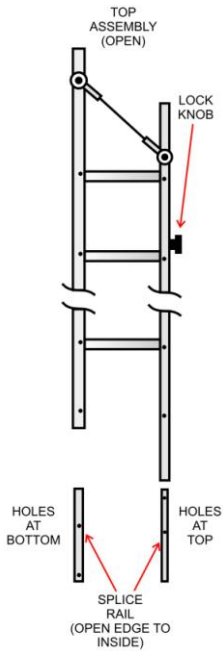

Figure 1.
2. Position the splice rails as shown in *Figure 1* (see next page). Insert each splice rail into the top assembly until the holes in each splice rail are aligned. The openings on each splice rail must face inward towards each other and the holes must be aligned. Hole orientation must be the same as in *Figure 1*.